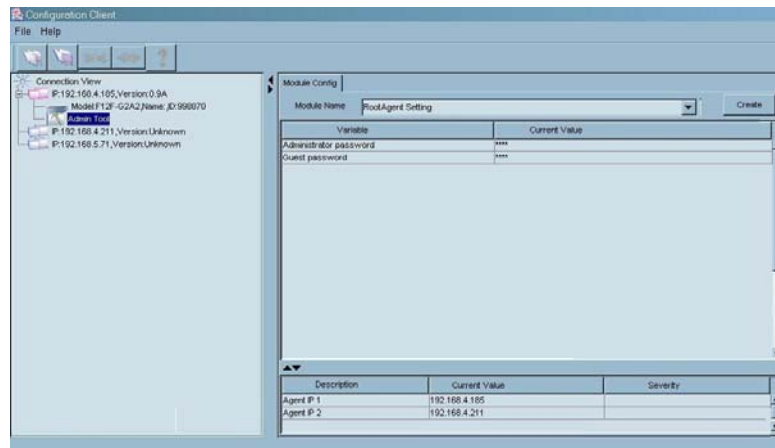

Figure 3-3: Configuration Client Window
Step 3. Click on *Configuration Client* to activate the Configuration Client window as shown in *Figure 3-3*. The Configuration Client program allows you to configure the following items: